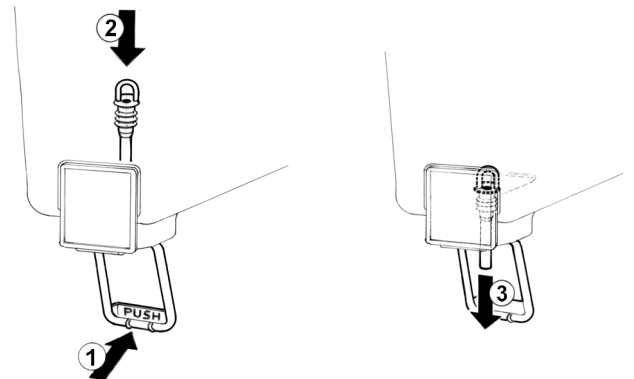

figure 5
2. Pinch tube faucet: push the dispensing handle (1) and insert the pinch tube into its vertical seat in the bowl bottom (2). Lightly pull the pinch tube end downwards until it is well arranged (3) (see figure 5).